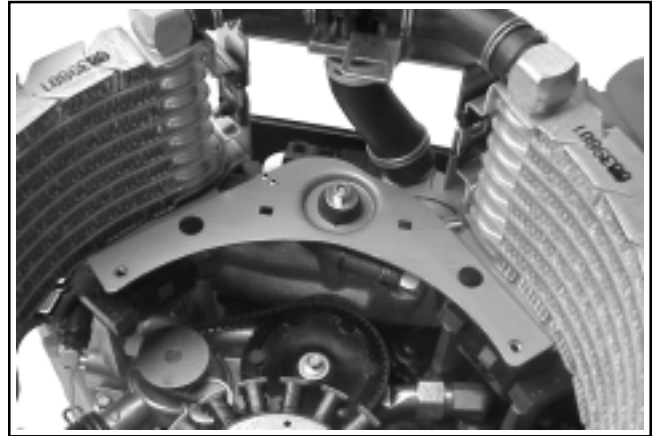

Figure 11-84. Ignition Modules “Back” as Far as Possible.
3. Position the modules on top of the mounting bosses. Slide the ignition modules as far away from the crankshaft as possible. See Figure 11-84. Do not attempt to attach the modules onto the mounting bosses at this time.